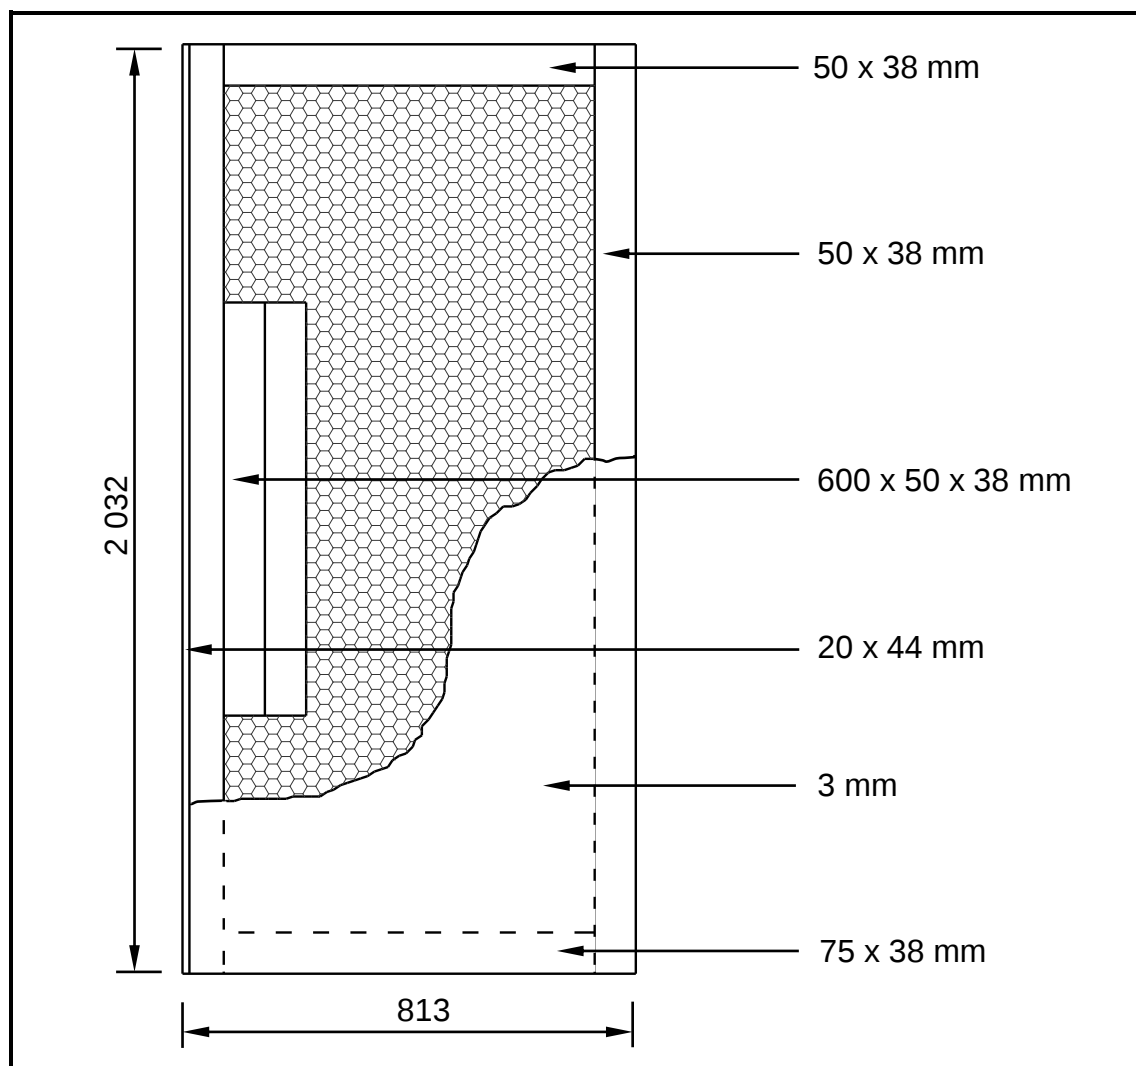

FIGURE 4.1
- 4.1 FIGURE 4.1 below shows the front view of a hollow-core flush panel door. Study the drawing and complete the incomplete cutting list. Write down the answer next to the question number (4.1.1 to 4.1.7) in the ANSWER BOOK.